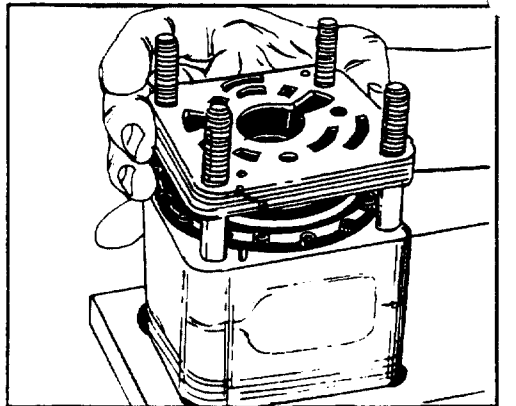

FIGURE 77.
29. Stack the isolation manifold (15) (4 plates bonded together) onto the metering ring (17), aligning the grooves on the side of the manifold with the grooves on the side of the upper cover plate (32) and the alignment pin holes with the alignment pins in the metering ring. The isolation manifold surface without the recessed slots must be placed toward the metering ring. See figure 77.